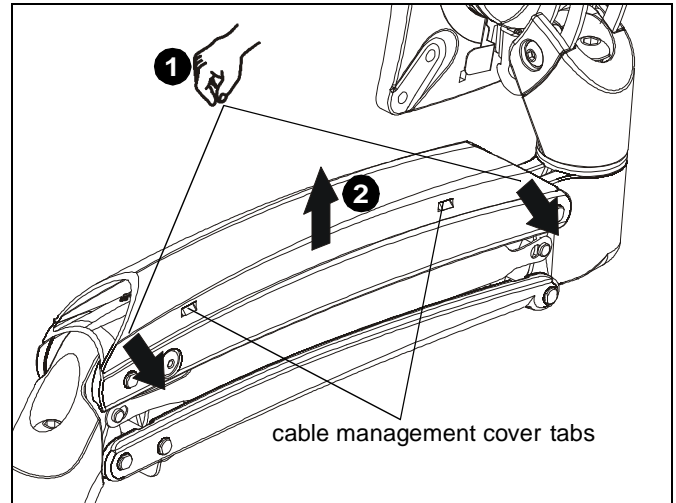

Figure 10
1. Press insides of cable management covers at both ends to unhinge tabs on either end of cable management cover on upper arm. (See Figure 10)
2. Lift cable management cover up until tabs are unhinged and cover is in the "open" position. (See Figure 10)